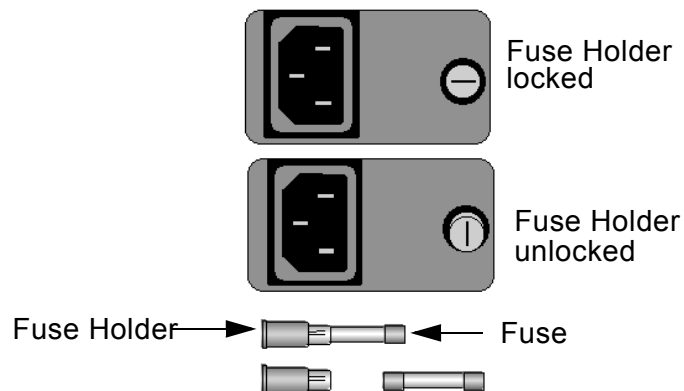

Figure 9. Replacing the Fuses
- 3 Use a flatblade screwdriver to turn the fuse holder(s) from horizontal to vertical as shown in Figure 9.